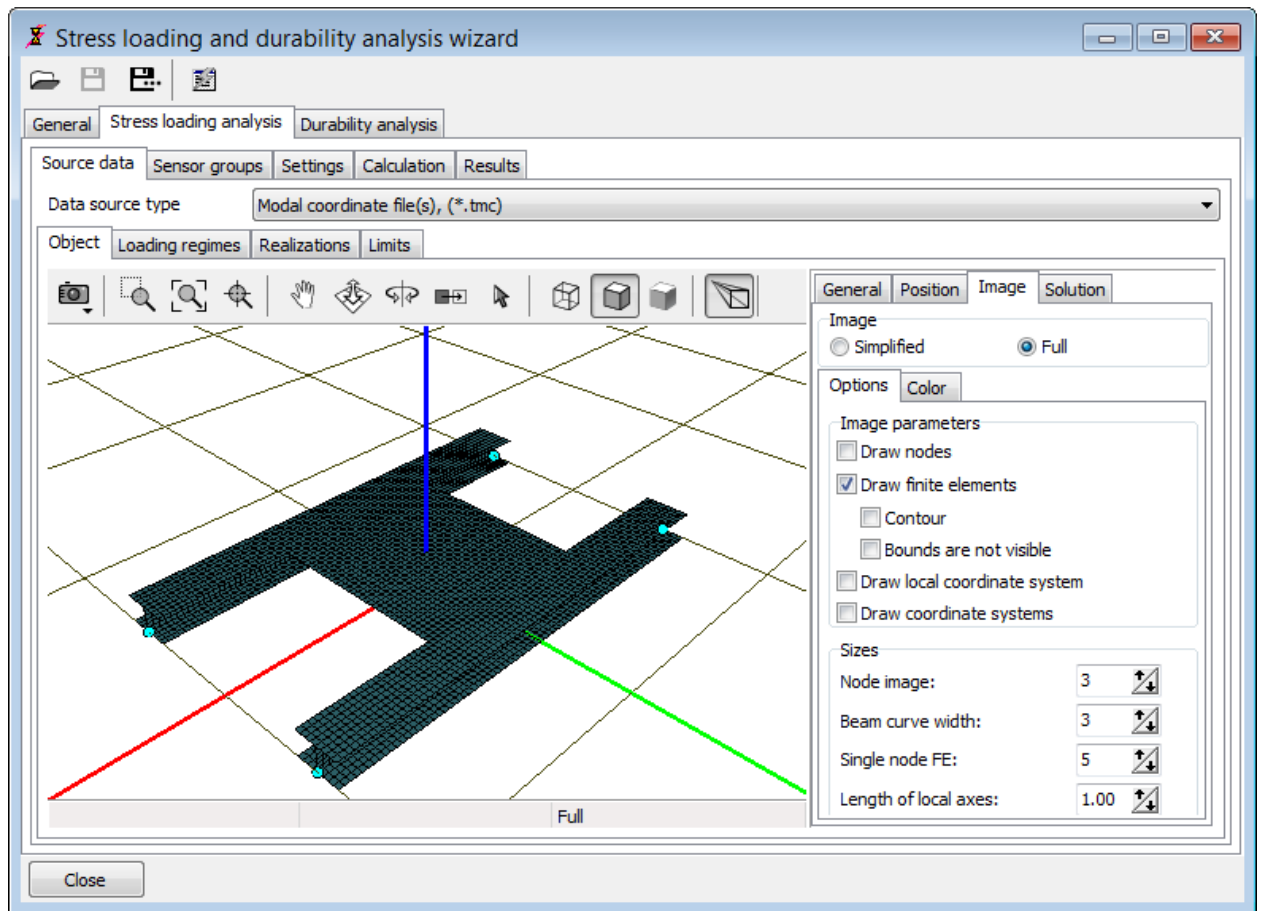

Figure 2.7. FEM model of the frame
1. As soon as you load at least one load case you can see your FEM object at the **Stress loading analysis | Source data | Object** tab, see Figure 2.7.